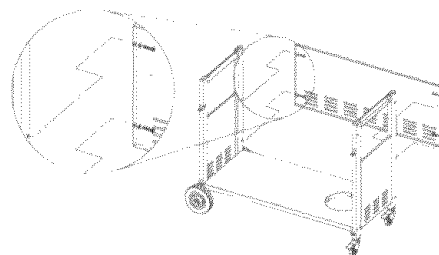

Figure 4
4. Attach the back panel to the cart legs using (4) $\frac{1}{4} \times \frac{3}{5}$ " Phillips head screws and (4) $\frac{1}{4}$ " lock washers. (Fig.4)